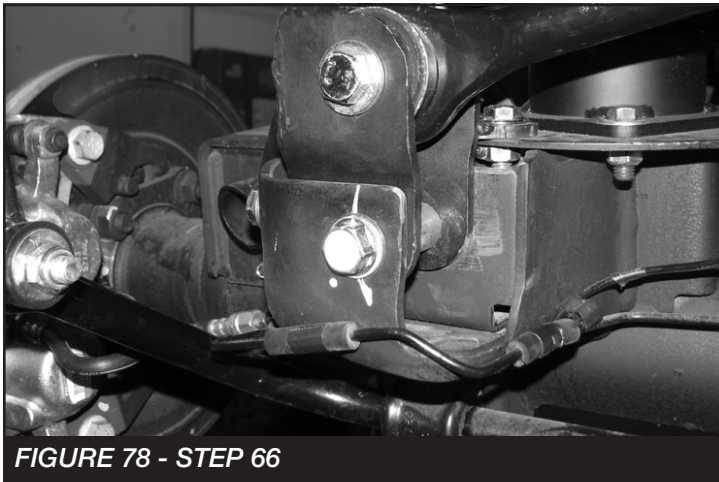

FIGURE 78 - STEP 66
66. Locate the supplied 9/16"-18 x 4" bolt, nut and washers and install the rear track bar into the new location. Torque to 184 ft-lbs. **SEE FIGURE 78**